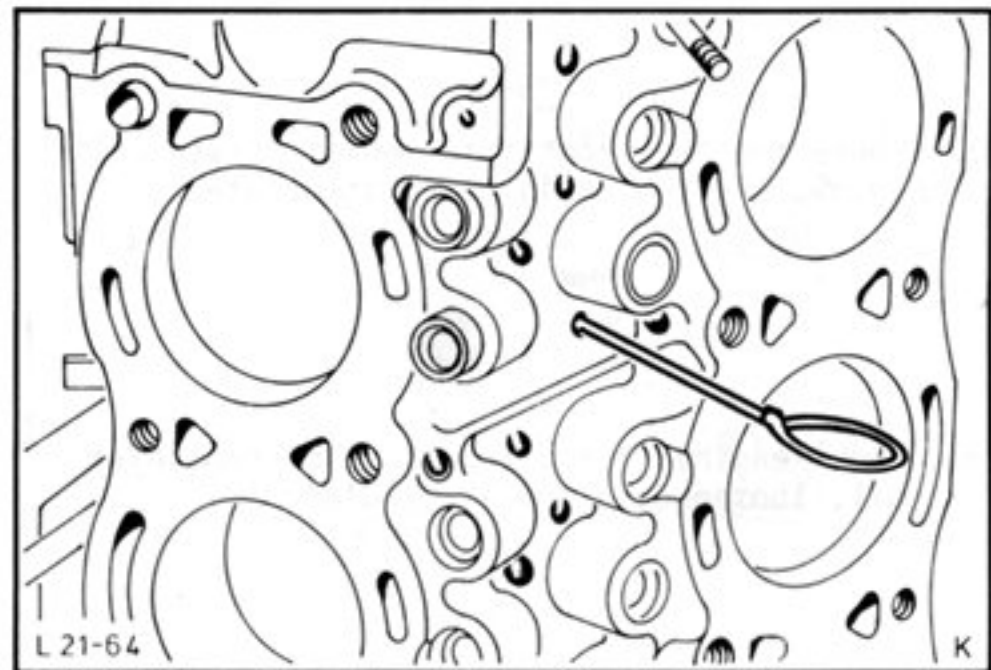

Fig.32. Prise out valve tappets by means of brass wire.
17. Mount engine upright. Place a large oil drip tray under the engine and prise out the valve tappets with a bent brass wire, Fig.32.